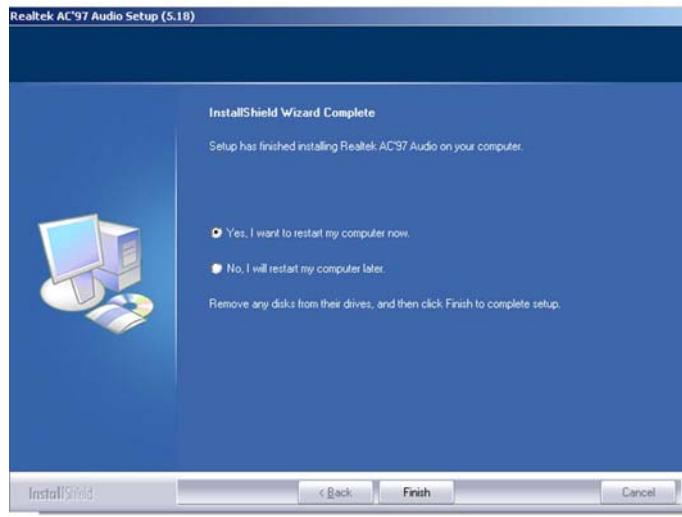

Figure 7-33: AC'97 Audio Driver Installation Complete
Step 9: After the driver installation process is complete, a confirmation screen shown in **Figure 7-33** appears.
Step 10: The confirmation screen shown in **Figure 7-33** allows you to restart the computer immediately after the installation is complete or to restart the computer later. For the settings to take effect the computer must be restarted. Once you have decided when to restart the computer, click the “**FINISH**” button.